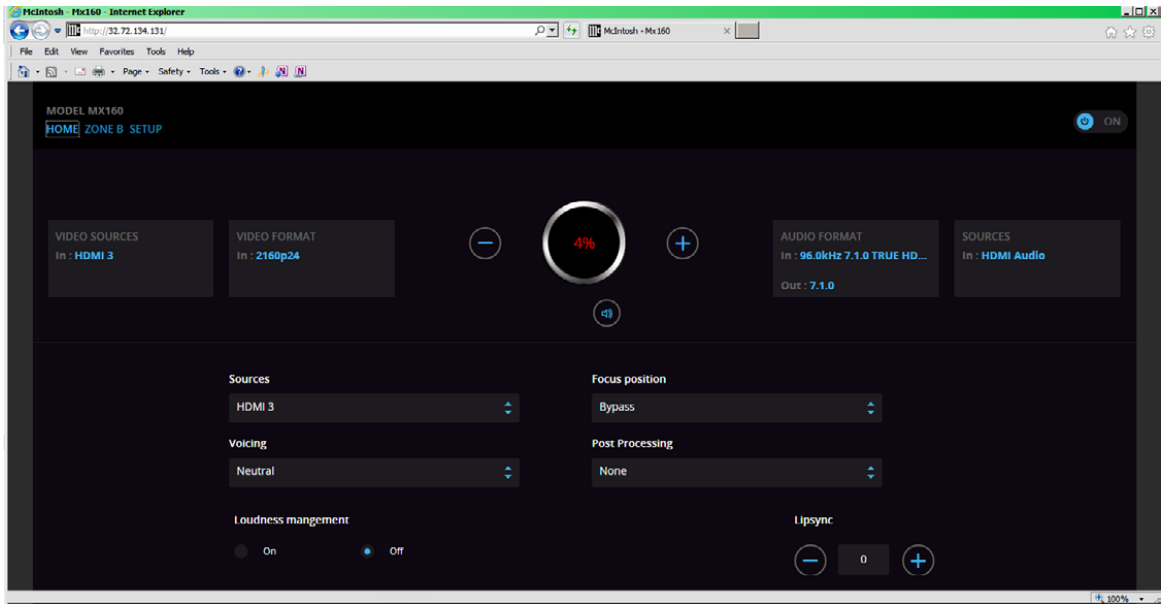

Figure 72
3. Launch the Computer Internet WEB Browser and enter in the URL (Uniform Resource Locator) entry box the current MX160 IP Address "http://____.____.____." and press return. Refer to figure 72.
In the upper left corner of the Computer WEB Browser's Display there is a three item selection Menu under the title "MODEL MX160". The choices include "HOME (Zone A), ZONE B and SETUP". Refer to figures 72, 73 and 74.